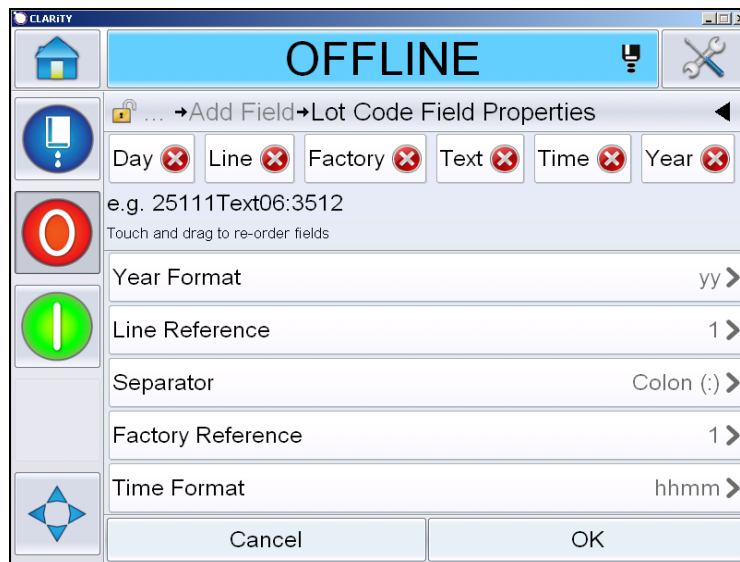

Figure 5-30: Lot Code Field Properties Page
- 9 Touch . Displays the *Add Field* Page. Select Time/Lot Code field. Displays the *Lot Code Field Properties* page (Figure 5-30).